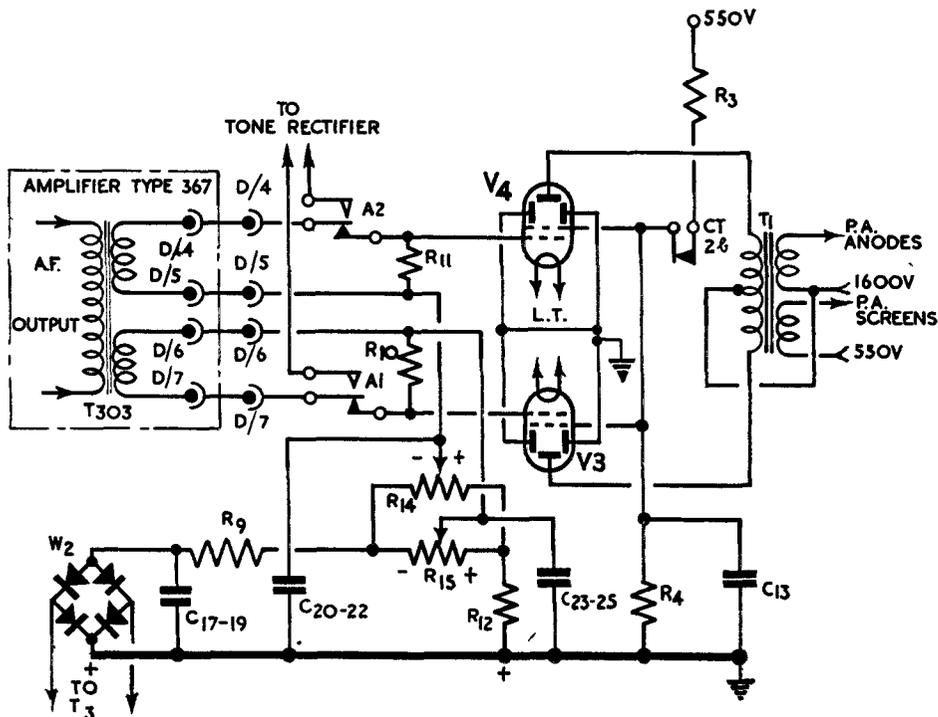

Fig. 9. Simplified circuit of modulator stage
37. The circuit of the modulator stage is shown in simplified form in *fig. 9* with the various relay and contactor contacts in the positions for R/T operation. The secondaries of the output transformer T303 in the speech amplifier are connected by relay contacts A1, A2, to feed the grids of the modulator valves V3, V4 in push-pull. When these contacts are reversed, as for CW working, the amplifier output is switched to the tone rectifier, W1 (*fig. 8*).
38. The stage operates under Class AB2 conditions, bias being obtained from the rectifier W2, (*fig. 8*) the input to which is taken from a secondary winding on the transformer T3 (*fig. 8*). Resistance-capacity smoothing is employed, and potentiometers R14, R15 (*fig. 9*) permit individual adjustment of the bias to each valve grid. When the potentiometers are in the minimum bias position, the grids are still negative to earth by the PD across R12.